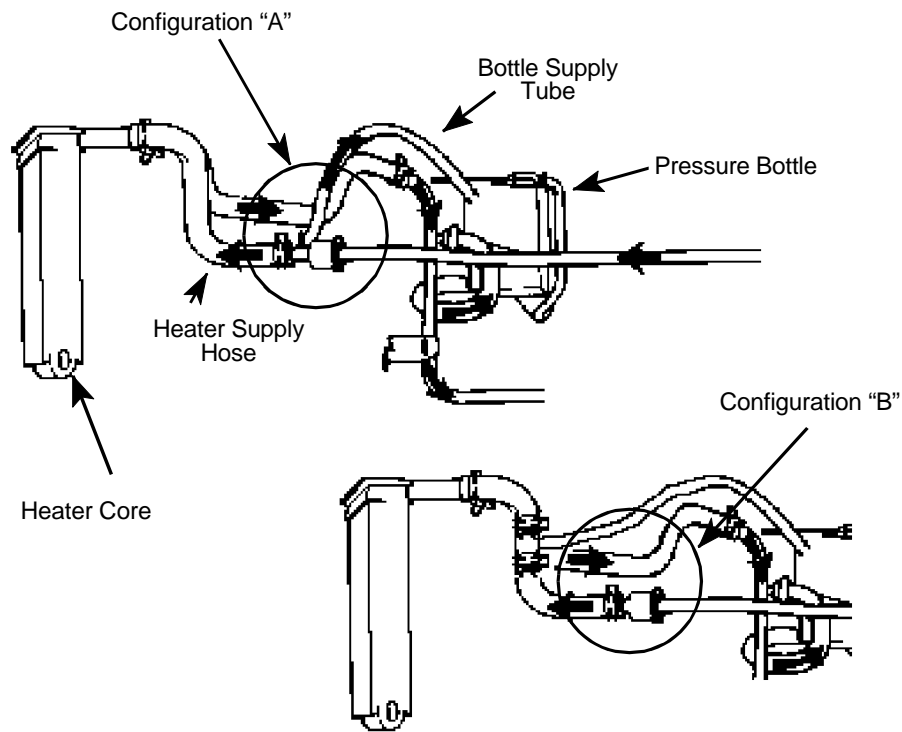

FIGURE 6
4. Identify the heater supply hose (Figure 6).
5. If the heater supply hose is configured as shown in Figure 6 "A", obtain p/n's heater supply hose 04596346AA, heater supply hose 04767170AB, four hose clamps 06502018 and two hose clamps 04592126. If the heater supply hose is configured as shown in Figure 6 "B", obtain p/n's heater supply hose 04767170AB, four hose clamps 06502018 and two hose clamps 04592126.